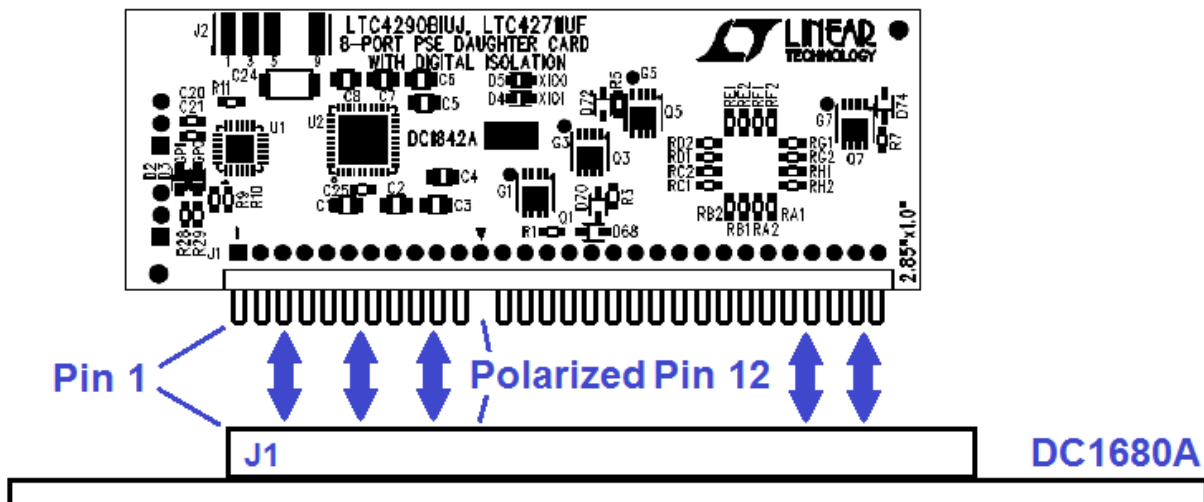

Figure 2. Inserting the DC1842A into J1 of the DC1680A
3. Align pin 1 of the 30-pin male connector on the DC1842A with pin 1 of the 30-pin female connector on the DC1680A (Figure 2). Pin 12 is polarized to assist with the alignment. Carefully push the DC1842A straight down until the two 30-pin connectors are flush with each other.